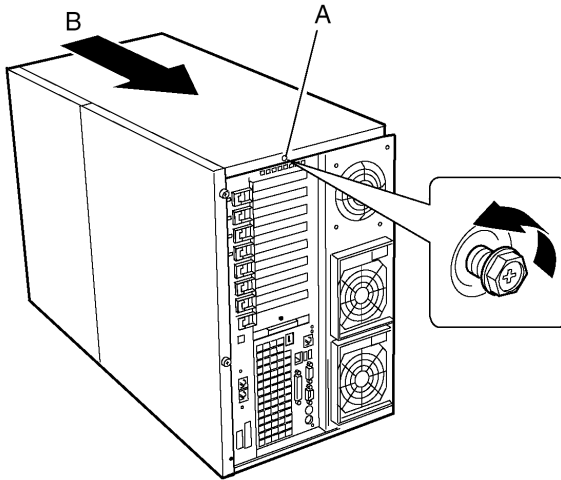

Figure 59 - Removing the left panel
- 1 Loosen the screw (Figure 59, A) on the rear edge of the left panel.
- 2 Slide the cover toward the rear of the chassis (Figure 59, B) and lift it off.